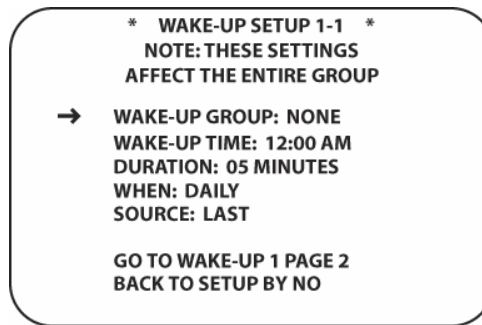

Figure 113 Wake-Up Setup 1-1
3. Using the ▼/▲ **Navigation Button [oval 16]** position the cursor next to SET WAKE-UP TIMES. Press the **Set Button [oval 18]**. The WAKE-UP SETUP 1-1 screen will appear. (**Figure 113**)